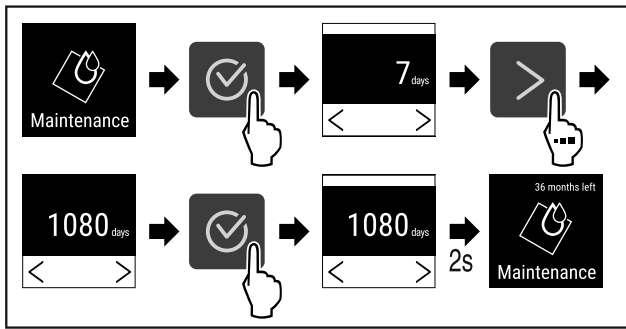

Fig. 79
- ▶ Complete steps (see Fig. 79) .